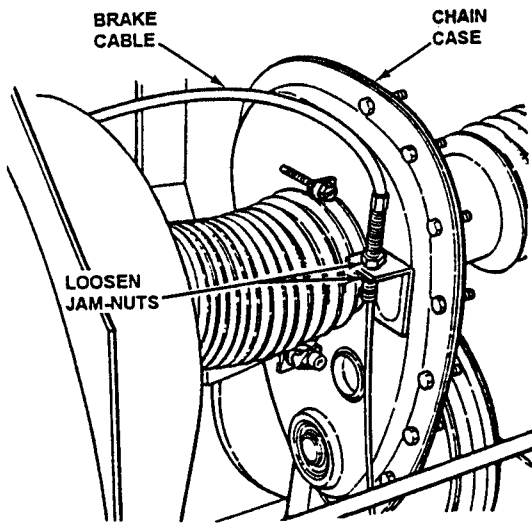

FIGURE 4.18
4. If this measurement is less than 1/2" or greater than 3/4", loosen the two jam nuts holding the clutch/brake cable to the chain case bracket. See Figure 4.18.
6. After adjustment is complete, securely tighten cable jam-nuts shown in Figure 4.18.